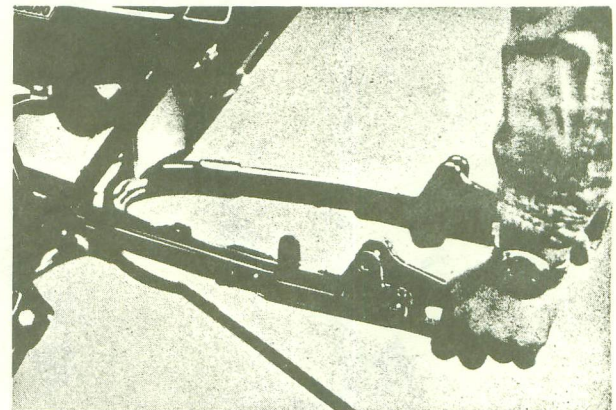

Fig. 5-8-3
1) Check the play of the rear swing arm by shaking it from side to side as shown in Fig. 5-8-3, with the rear swing arm installed. If the play is excessive, replace the rear swing arm bushings or the rear swing arm shaft.